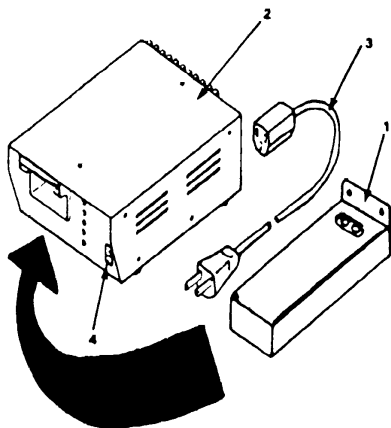

Figure 3-2. Charging T/C Battery
- a. Charging T/C Batteries. (See Figure 3-2.) Charge the T/C batteries as follows:
- (1) Insert the battery pack (1) into the charger (2).
- (2) Set the voltage selector to 115 or 230, depending upon available line voltage.
- (3) Plug the power cord (3) into electrical outlet.
- (4) Set the charger ON/OFF switch (4) to ON.
- (5) Charge the batteries for at least 6-R hours. Overcharging is prevented automatically by the charger circuit.
- (6) When battery charging is complete, remove the battery from the charger.